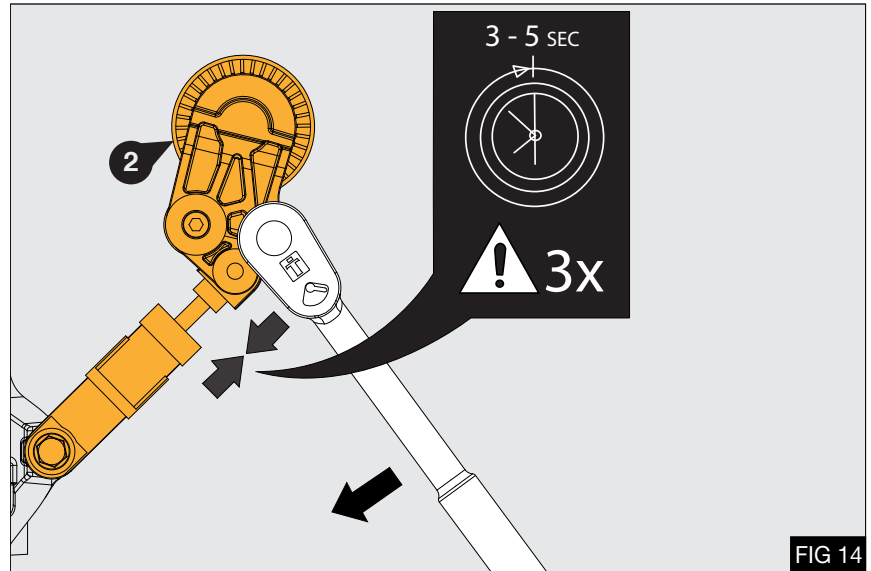

FIG 14
5. Before installing the drive belt (21) cycle the automatic tensioner (2) through its full travel a minimum of three times - Fig 14